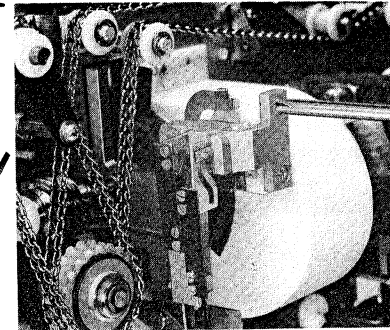

Fig. 8
- Take off 2 ea. of screws (018308B) and remove the ball receiver (450312) fixed on mirror barrel supporting main body (450004). (Fig. 8)